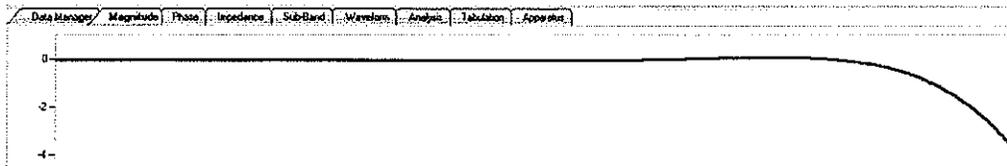
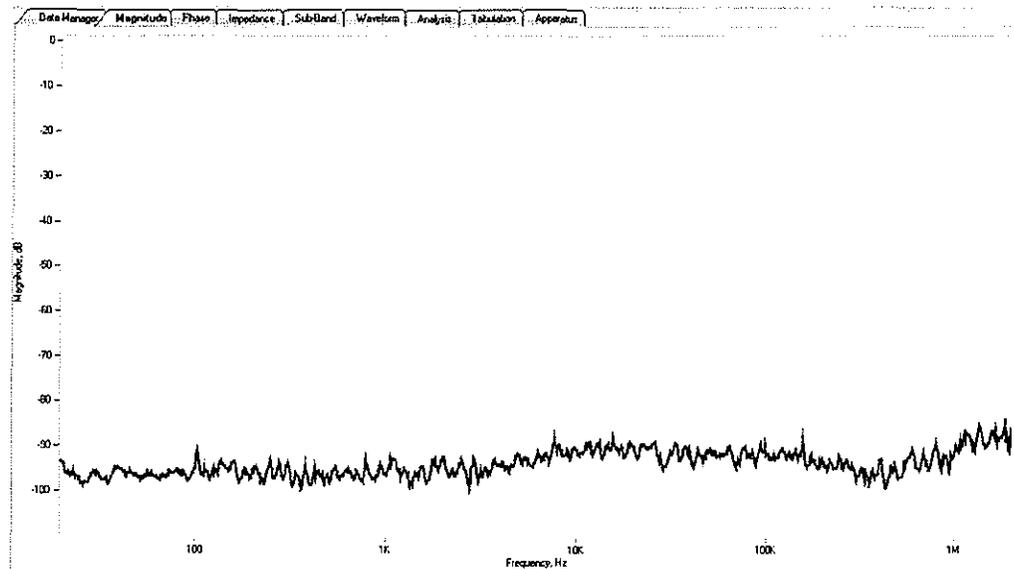

Figure 3.5 Short-Circuit Lead Response
Figure 3.6 Open-Circuit Lead Response
The short-circuit lead response test verifies proper condition of the test specimen cable. Since there is no attenuation, signal loss between the Source/Reference and Measure, the resulting data graph plots along the 0 dB horizontal line as frequency increases, until an inductive rolloff occurs (Figure 3.5).
4. Compare your result to the curve in Figure 3.5.
5. If your result resembles Figure 3.6 rather than Figure 3.5, troubleshoot the leads for an open circuit.